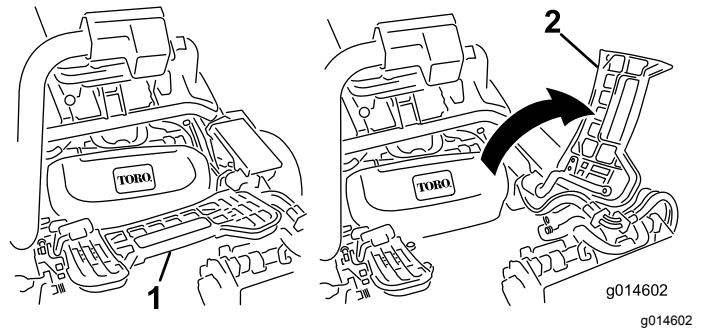

Figure 49
2. Lift up on the foot rest and swing it open, allowing access to the center cutting unit position (Figure 49).